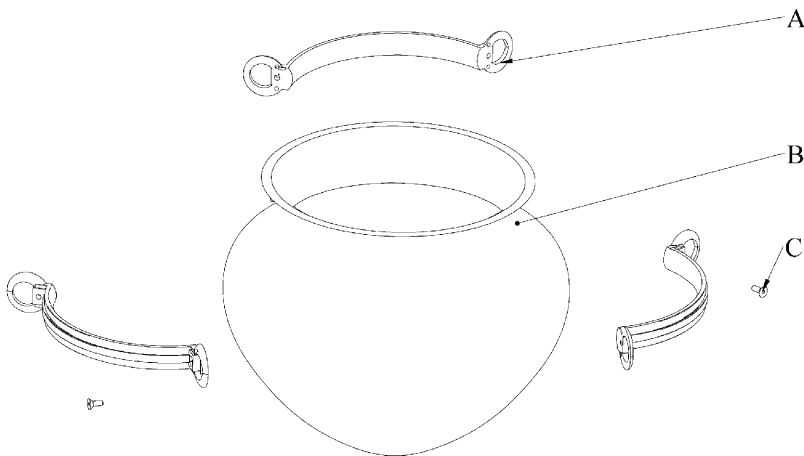

Figure 1
1. Attach bands (A) to glass (B) by placing band sections around lip of glass and securing with countersunk screws (C) (Figure 1).